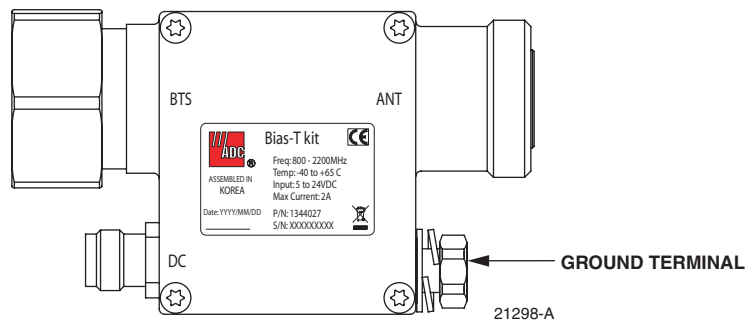

Figure 12. Bias-T Ground Cable Connection
1. Connect the ground cable to the Bias-T grounding pole (see Figure 12).